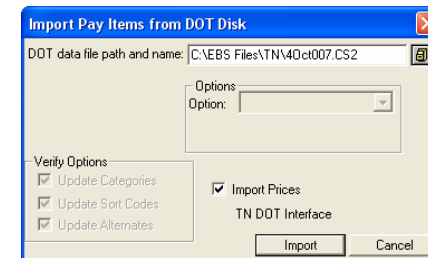

Figure 2.4
*Overview:* This option is used to load a list of pay items and quantities from a State DOT-supplied bid disk into a project file. This option makes it extremely easy to set a job up, especially one with a long list of pay items. The information loaded from the State disk varies depending on the DOT program but usually includes: Pay Item Number, Description, Bid Quantity, and Unit Description. Some states also include Category Number, Alternate Codes, and Sort Codes. After selecting this option, you will see the screen shown in Figure 2.4.
- You will then see the screen shown in Figure 2.4. See below for each of the options on this screen.